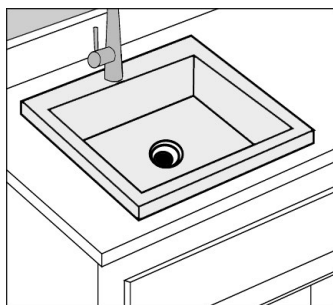

Figure 6
10. After the sink is positioned and securely in place, place plumbers putty around the underside of the faucet body or its mounting plate and install it into the sink (Figure 6).